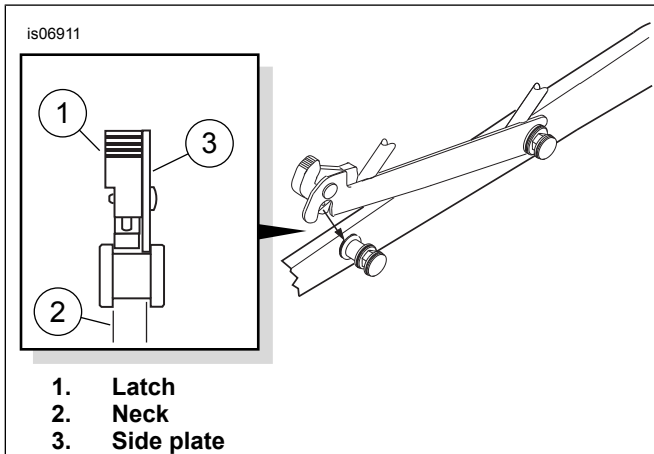

Figure 12. Pull back rotary latches and lower handrail onto turn rear docking points.
2. Pull the rotary latches back into their rearmost position as shown in Figure 12. Position the rear rotary latches over the rear docking points, making certain the latches and sideplates fit into the neck of the turn signal docking points as shown in the rear view. This may require some gentle squeezing or spreading of the sideplates.